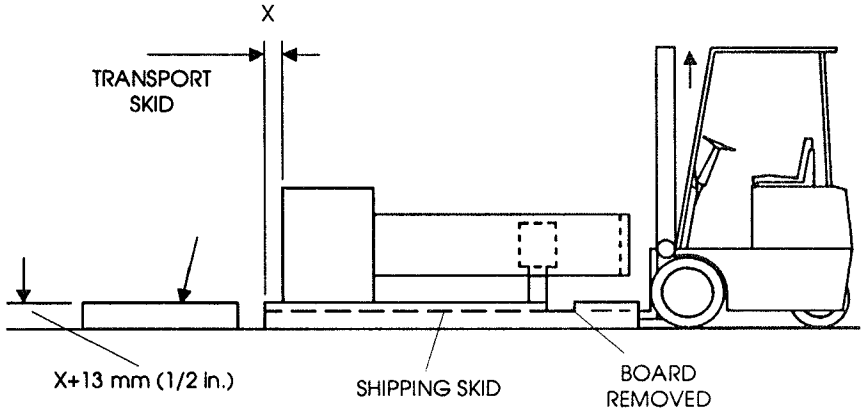

Figure 3-3. Forklift Starting Position
- (a) Place a skid in front of the frame base as Figure 3-3 illustrates.
- (b) Remove one board from the shipping skid just beyond the crosshead towards the top tie plate as Figure 3-3 illustrates.